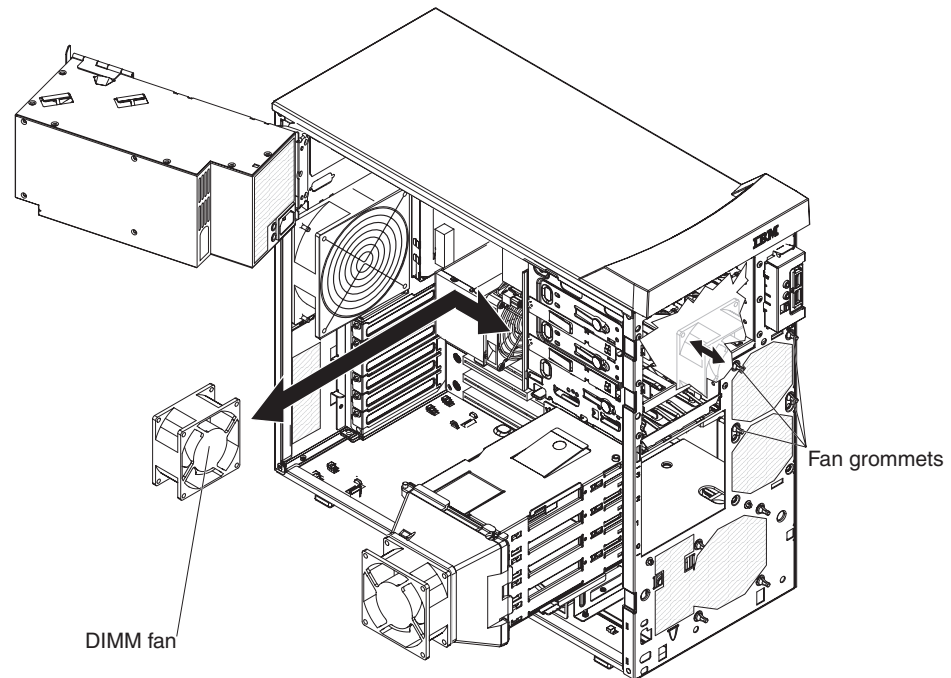

Figure 51. Removing the DIMM fan
10. Grasp the DIMM fan and pull firmly, extending the rubber extensions (grommets) that secure the fan to the chassis. Pull the grommets through the holes in the fan or chassis and remove them, or use side cutters to cut the grommets (see Figure 51).